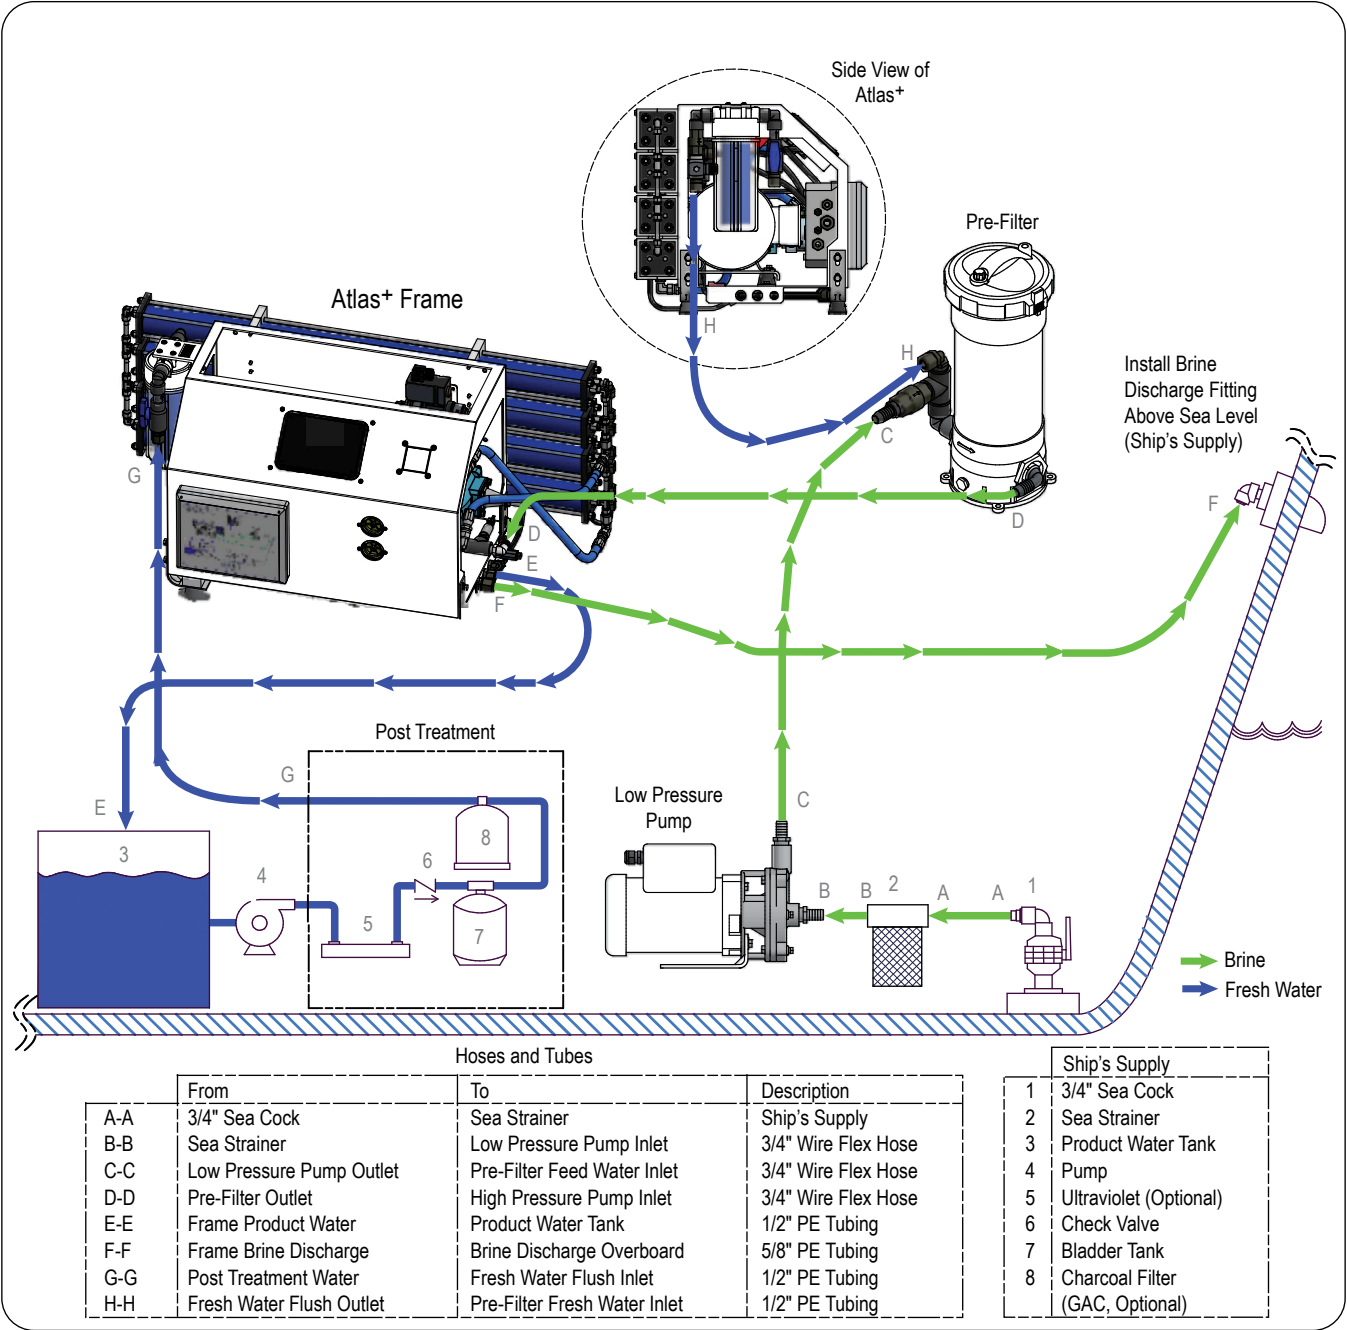
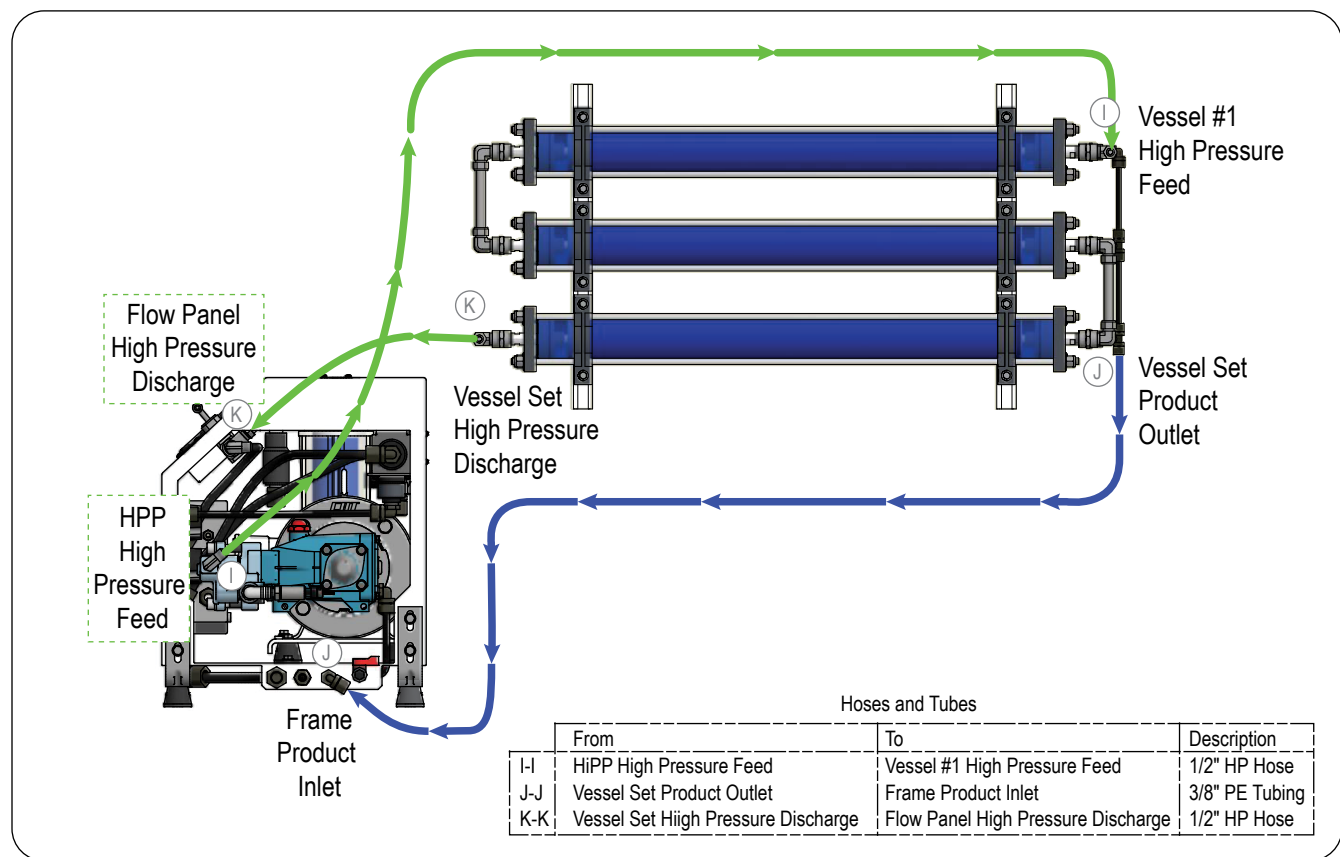

Figure 17: Plumbing Diagram
Figure 18: Plumbing Diagram for PV Off-Frame Mount (3,600 GPD systems)
The plumbing diagrams are shown in *Figure 17* and *Figure 18*. If you are installing optional accessories with the system, refer to the manual provided with the accessory. The plumbing installation is discussed in "SYSTEM INSTALLATION / PLUMBING" on page 47.
- Letters A-A to H-H refer to specific tubes and hoses from *Figure 17 on page 43*.
- Letters I-I to K-K refer to specific tubes and hoses from *Figure 18 on page 44*.
Using the above connector and tee, connect one end of the 1/2" PE Tubing to the **ship's pressurized water supply 1/2" NPT connection**. This connector should be on the pressure side of the fresh water system after the accumulator tank. Measure the run as straight as possible to the fresh water flush filter, inlet side and cut the tube to length. (See *Tube G-G, Figure 17*.)
Using the above connector, attach one end of the 5/8" PE Tubing to the **ship's brine discharge thru hull 1/2" NPT connection**. Be sure the discharge thru-hull is mounted at or above the water line. Measure the run as straight as possible to the right panel of system and cut the tube to length. See *Tube F-F, Figure 17*.
Using the above connector, attach one end of 1/2" PE Tubing to the **ship's unpressurized potable water storage tank 1/2" NPT connection**. Always make the connection on the top of the tank. Measure the run as straight as possible to the right panel of the system and cut the tube to length. (*Tube E-E, Figure 17*)
Refer to the *Figure 17 on page 43*. Proceed as follows to connect the plumbing to the system components:
- 1 Find the 3/4" hose previously installed to the outlet side of the sea strainer. Refer to "SEAWATER INLET" on page 49. Connect the free end of the hose to the inlet side of the low-pressure pump. (Inlet side of the low-pressure pump is always the center fitting, located on the front of the pump). See *Hose B-B, Figure 17*. Secure hose connections with hose two clamps.
- 2 Attach 3/4" hose to the barb at the output of the low-pressure pump using two clamps. Cut the tube to a length suitable to allow the shortest possible run between the low-pressure pump and the feed-water inlet side of the pre-filter assembly. Attach tube to the barbs on the feed-water inlet of the pre-filter assembly using two clamps. See *Hose C-C, Figure 17*.
- 3 Attach 3/4" hose to the fitting at the outlet of the pre-filter. Route to the fitting at the inlet of the high pressure pump and cut and attach. (See *Hose D-D, Figure 17*.)
- 4 Find the 1/2" tubing previously installed to the fresh water storage tank. Refer to "PRODUCT WATER TO STORAGE TANK CONNECTION" on page 48. Connect the free end of the tubing to the product-water fitting on the right panel of the system. See *Tube E-E, Figure 17*.
- 5 Find the 5/8" tubing previously installed to brine discharge thru-hull. Refer to "BRINE DISCHARGE CONNECTION" on page 48. Connect the free end of the tubing to brine-out fitting on the right panel of the system. See *Tube F-F, Figure 17*.
- 6 Find the 1/2" tubing previously installed to the ship's freshwater pressure system. Refer to "SHIP'S FRESH WATER SYSTEM TO FRESH WATER FLUSH CONNECTION" on page 48. Attach the free end of the tubing to the fitting at inlet side of the fresh-water-flush filter. (See *Tube G-G, Figure 17*.)
- 7 Attach 1/2" tubing to the fitting at the outlet side of the fresh-water-flush filter and route and attach tube to the fresh water inlet of the pre-filter. (See *Tube H-H, Figure 17*.)
Refer to *Figure 18 on page 44*. Proceed as follows to connect the plumbing from the system frame to the off-frame mounted PV set:
- 1 Using the blue high-pressure hose (provided), connect one end to the high-pressure pump outlet and measure to the inlet of the lead pressure vessel or the one marked #1. Cut the hose to length and install a reusable hose end (provided). (See *Hose I-I, Figure 18*.)
- 2 Attach 3/8" tubing from the vessel set product water outlet to the flow panel product water inlet. (See *Hose J-J, Figure 18*.)
- 3 Using the rest of the blue high-pressure hose (provided) connect one end of the hose to the high pressure discharge on the pressure vessel. Measure to the display panel and cut to length. Install the reusable hose end. If additional high-pressure hose is needed contact your dealer or FCI Watermakers for assistance. (See *Hose K-K, Figure 18*.)